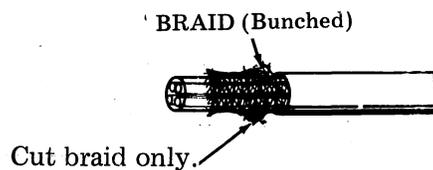

Fig. 26
- ② Remove most of exposed wire braid (if present) by pinching the exposed braid toward the plastic outer shield and then cutting off the bunched braid with cutting pliers without cutting the wires underneath. See Fig. 26.